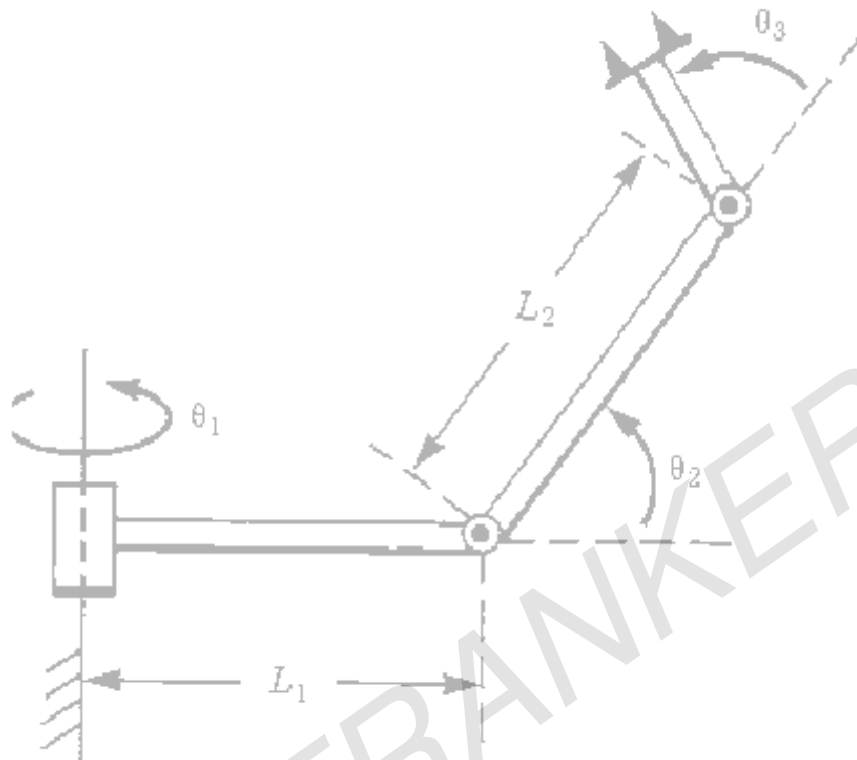

Figure 8
- A spatial 3-R manipulator is shown in Figure 8. Obtain the D-H parameters and the kinematic equations. [16]